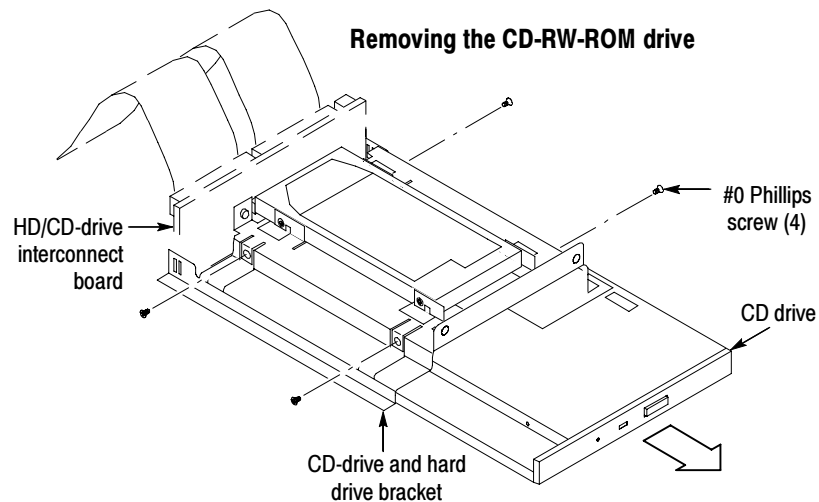

Figure 7: Remove the CD-RW drive from the bracket
5. *Remove the CD-RW Drive from the assembly:* See Figure 7.